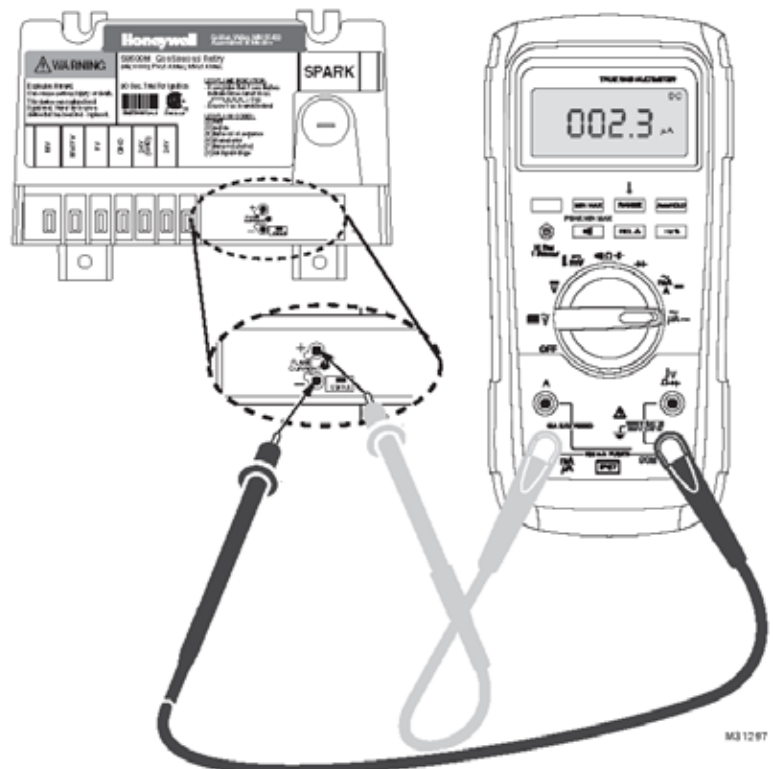

Figure 21B: Measuring Pilot Flame Current with Micro-ammeter
1. Flame Current Measurement Procedure. See Figure 21B "Measuring pilot flame current with micro-ammeter"
- a. Pilot flame current in micro amps can be measured using any standard micro-ammeter by inserting the meter probes into the module holes labeled FLAME CURRENT as shown in Figure 21B.